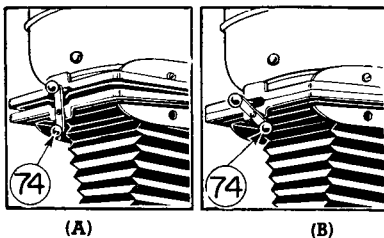
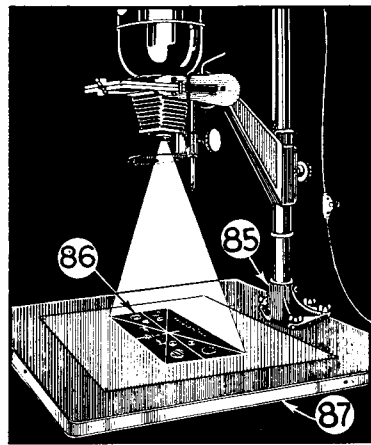

Figure 12
Figure 14
26. When using strip film, it is unnecessary to remove the carrier from the enlarger to change from one frame to another. Instead, turn the pressure release lever (74) to a vertical position, as in Figure 12. This spreads the plates apart so that film may slide through without scratching. Always turn the pressure lever BACK TO EITHER SIDE, as shown in the right half of Figure 12, so that the film is clamped BEFORE focusing or making an enlargement.
48. Place the negative you wish to enlarge on the negative pressure plate of the lower section of the negative carrier, emulsion side down; close the negative carrier and insert it between the gate plates (14) and push it all the way back, then pull it about $1\frac{1}{2}$ " forward. In this position, the portion of the negative carrier holding the built-in target is directly over the lens. See Figure 14.
49. Raise the enlarger to the position which gives you the image size you desire, and lock the clamping knob (28). Turn the iris diaphragm
of the objective lens wide open, close down to $f.8$ or smaller, for greater depth of focus, when making exposure. Always make certain that the pressure lever (74) is in a CLOSED position BEFORE focusing. See paragraph 26 and Figure 12. Focus the image of the target carefully as described in paragraphs 38-42. If the carrier projects about $1\frac{1}{2}$ " , the image of the target will be in the center of the baseboard, as in Figure 14.
50. After you focus the image of the target most accurately, push the negative carrier all the way back. The negative is now in focus. Should you find that the enlargement is too small or too large, raise or lower the enlarger on the post, lock the clamping knob (28), then pull the negative carrier about $1\frac{1}{2}$ " out, and refocus on the target.